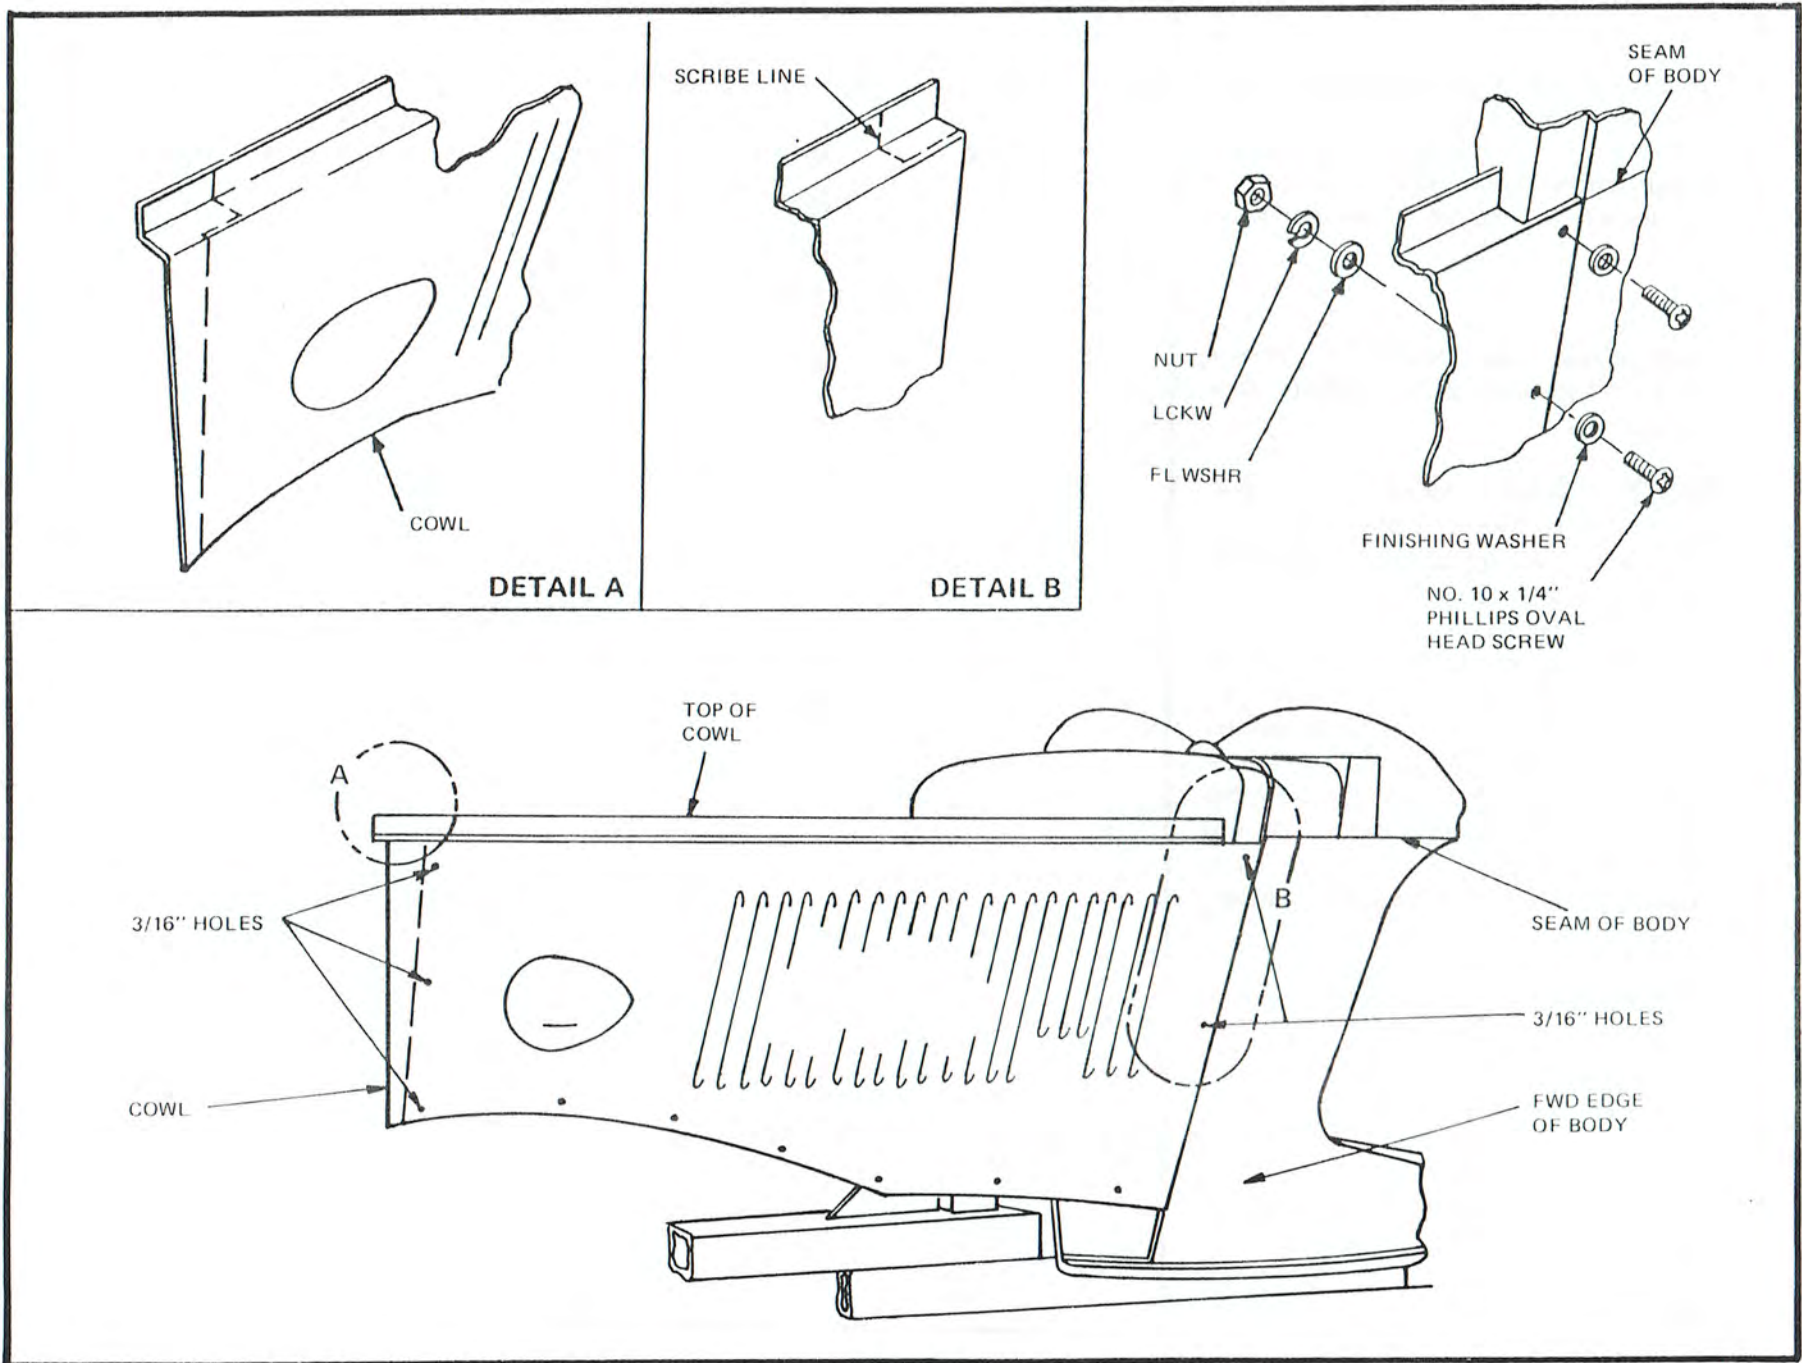

Figure 39
- Trim and drill cowl as per Figure 39. Carefully align cowl with body, matching rear of cowl with forward edge of body. Adjust height of cowl until top edge of cowl aligns with mold seam on body.
- Leave all other bolts out at this time. (Figure 39)